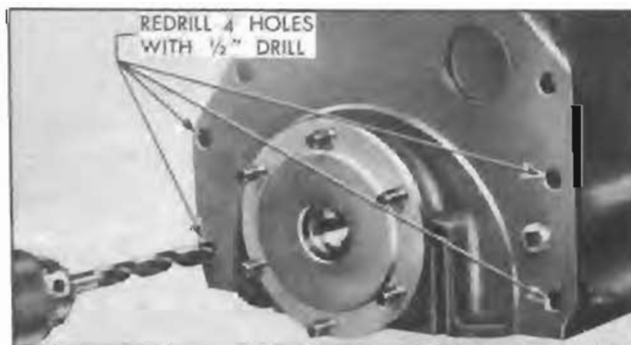

Figure 2-43—Enlarging Bolt Holes in Crankcase Flange
10. If it is not possible to move flywheel housing far enough to obtain specified alignment, remove both housings. Drill the two plain bolt holes in flywheel housing and the four plain bolt holes in crankcase with a $\frac{1}{2}$ " drill. See figures 2-43 and 2-47.